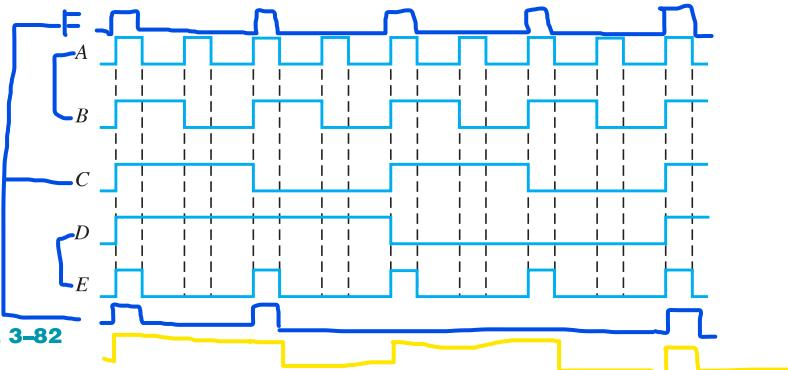

FIGURE 3-82
14. For the waveforms given in Figure 3-82, A and B are ANDed with output F , D and E are ANDed with output G , and C, F , and G are ORed. Draw the net output waveform.